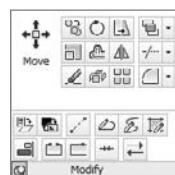

FIGURE 1.25 The Modify panel pinned to stay open
6. Often, you may find yourself returning to the same tool on an expanded Ribbon panel. When that happens, you can pin the panel open by clicking the pushpin-shaped button in the bottom-left corner. When the panel is pinned open, it remains open even when the cursor is not hovering over it (see Figure 1.25).